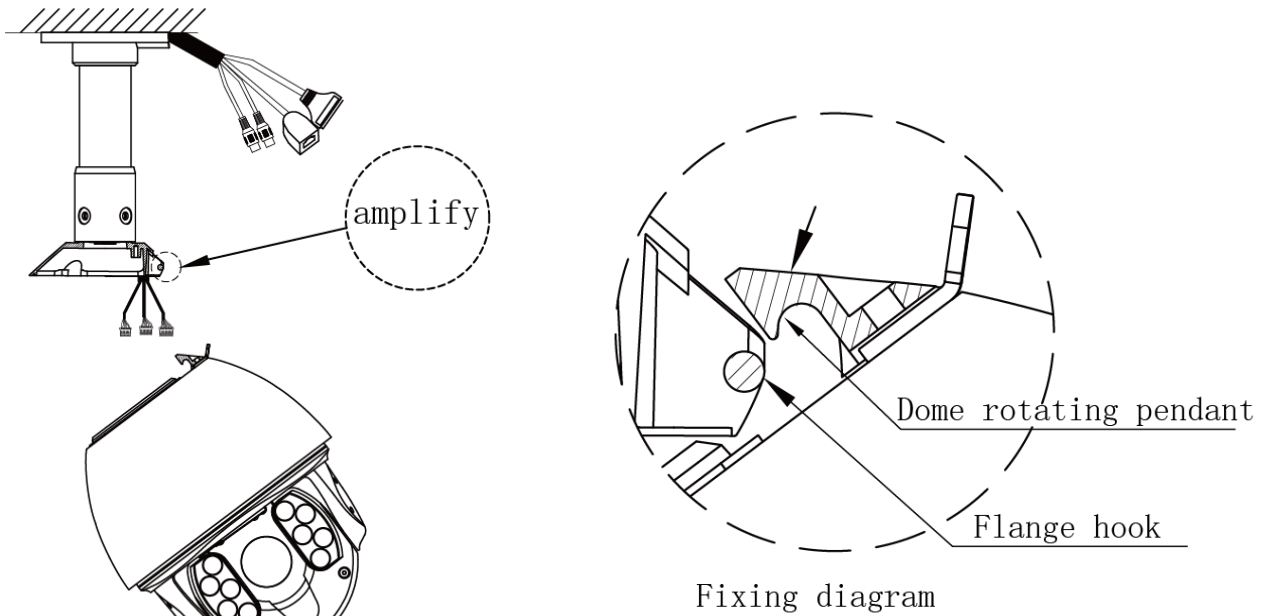

Figure 8
5. Please insert the expansion screw into the hole, align the stand base hole with the mounting surface hole, put into the screw, and lock it. Hold the dome with both hands as shown in the machine was 45 ° tilt angle, the mounting rotating pendant dome is aligned with the rotation of the hook inside the buckle into the flange, as shown in figure 8.